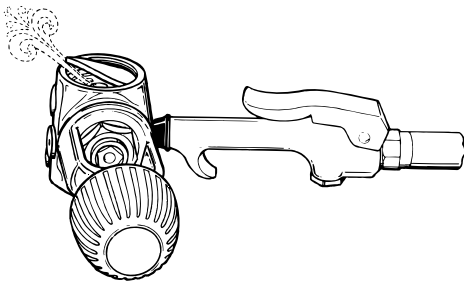

Fig. 2
6. Lift out the washer(30) and spring(29). Examine the spring with the use of a magnifier, checking closely for any signs of pitting, rusting, or other corrosion which permeates the surface of the metal. Set the spring and washer aside if they are in reusable condition, or replace with new as needed.
8. Lift the spring pad(27) and thrust washer(26b) out of the first stage body. Discard the thrust washer and do not reuse.
9. Using a 4mm hex key, install spare LP port plugs(23) into three of the four LP ports, leaving one LP port open while the other ports are sealed.
10. Direct a short burst of low pressure (50 psi) air through the primary LP port to partially dislodge the diaphragm(26a) from the first stage body (see Fig. 2). Lift out the diaphragm and discard. Remove the port plugs that were installed in the previous step.